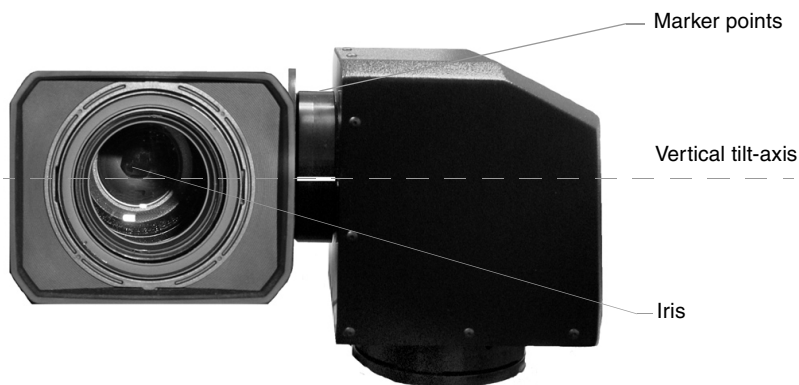

FIG. 17 Iris alignment with vertical tilt-axis
8. Take the entire camera/mount and cradle assembly and align the lens with the tilt hub so that the vertical-axis intersects the center of the camera's iris, as shown in FIG. 17.